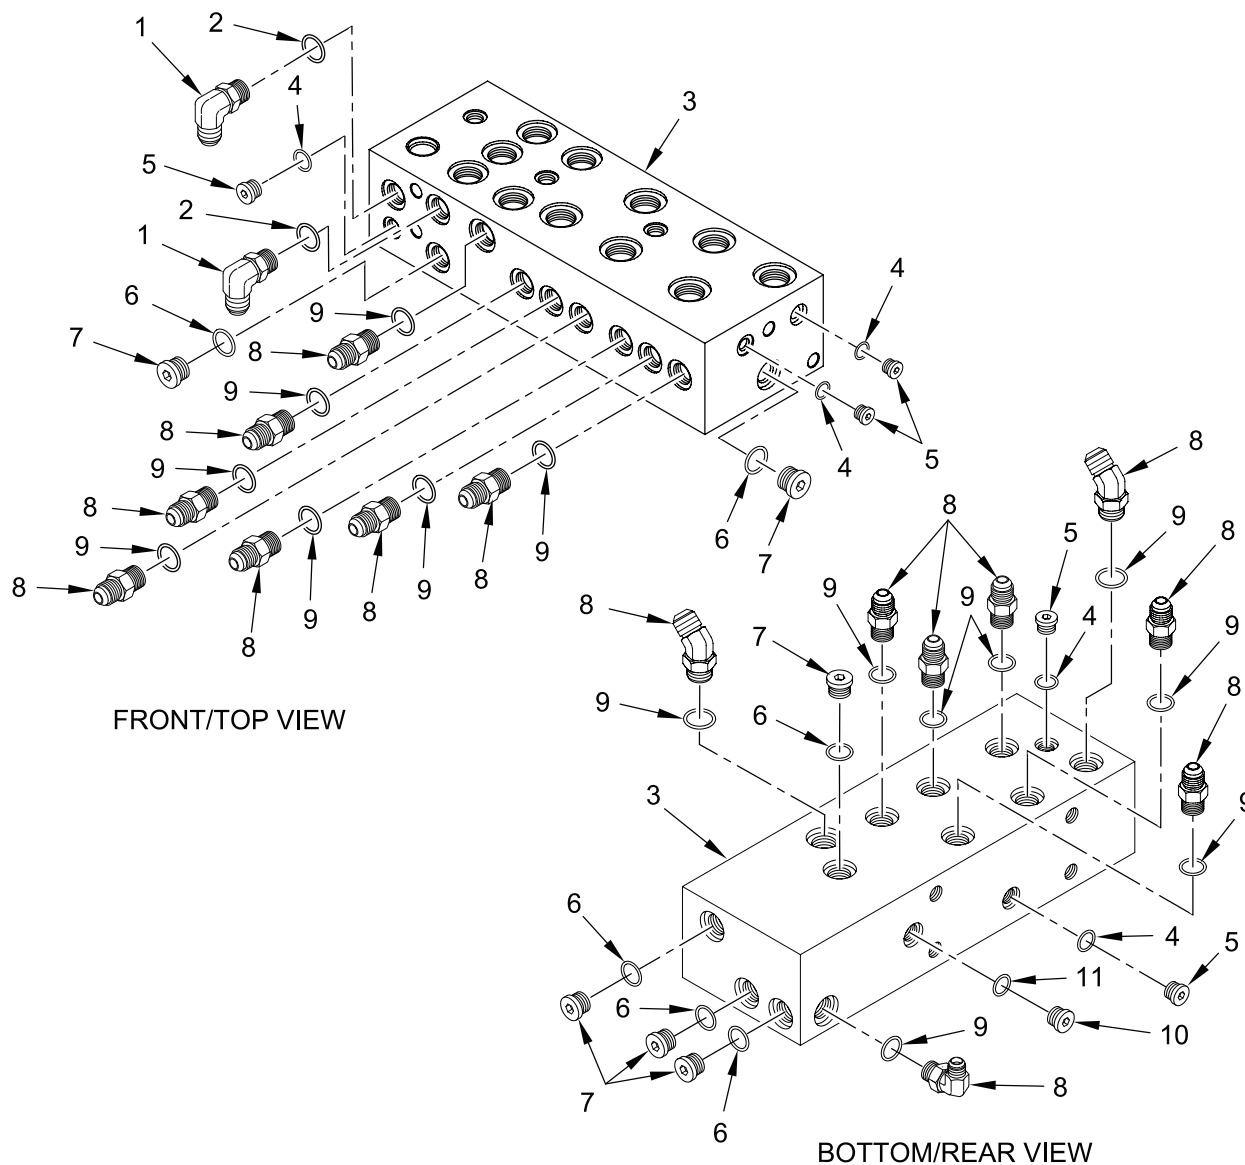

Figure 4. Installing Plugs and Adapters On Primary Manifold
5. Install six new o-rings (Figure 4, item 6), six plugs (Figure 4, item 7), new o-ring (Figure 4, item 11), plug (Figure 4, item 10), five new o-rings (Figure 4, item 4), and five plugs (Figure 4, item 5) on primary manifold (Figure 4, item 3).
6. Install two new o-rings (Figure 4, item 2), two adapters (Figure 4, item 1), 15 new o-rings (Figure 4, item 9), and 15 adapters (Figure 4, item 8) on primary manifold (Figure 4, item 3).